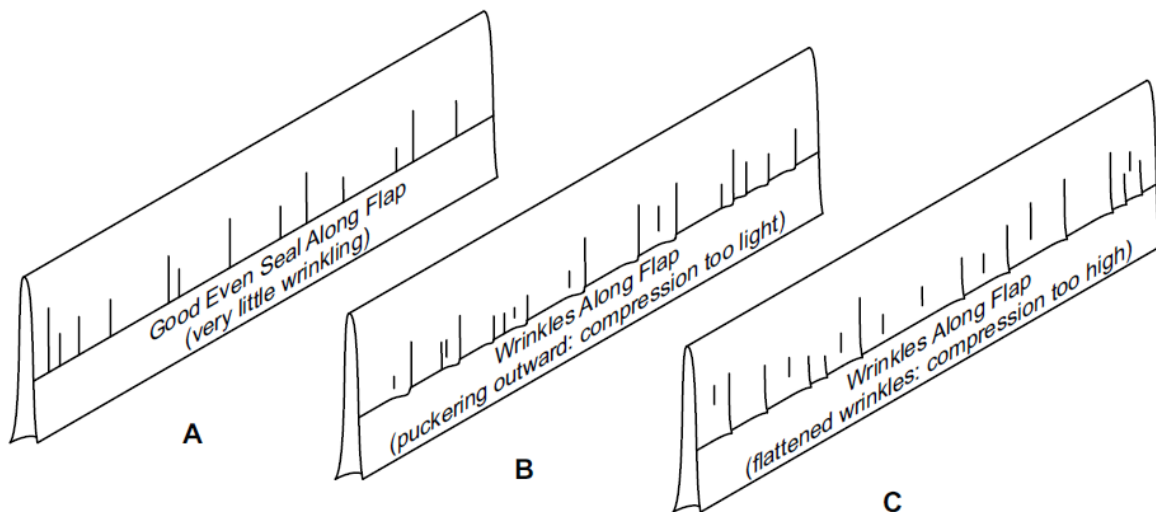

Figure 7-1 Bag Seal Comparison
1. The diagram in Figure 7-1 (A) represents a proper bag seal. Some creasing will occur near the gussets and small wrinkles will be present as a result of the creaser. The seal does make full contact along the bag when pulled apart and inspected.
2. The diagram Figure 7-1 (B) shows that the flap has not been completely compressed. The adhesive was likely heated to the correct temperature, but the compression rollers must force the melted glue into the fibers of the bag material on both sides of the seal. The wrinkles are present, but are not pressed flat to the bag surface (see "COMPRESSION BELTS" on page 5-4 and "COMPRESSION ROLLERS REPLACEMENT" on page 5-22).
3. The diagram Figure 7-1 (C) indicates that the bag has been sealed for the most part, but there are an excess amount of large wrinkles in the flap. They are compressed to the surface, but still may allow leakage of the product. Here are some of the possible causes: